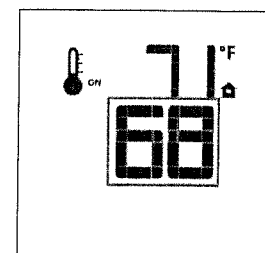

Figure 7.11 Change Set Temperature.
- To adjust the Set Temperature, press the Up or Down Arrow Keys until the desired Set Temperature is displayed. Fig. 7.11.